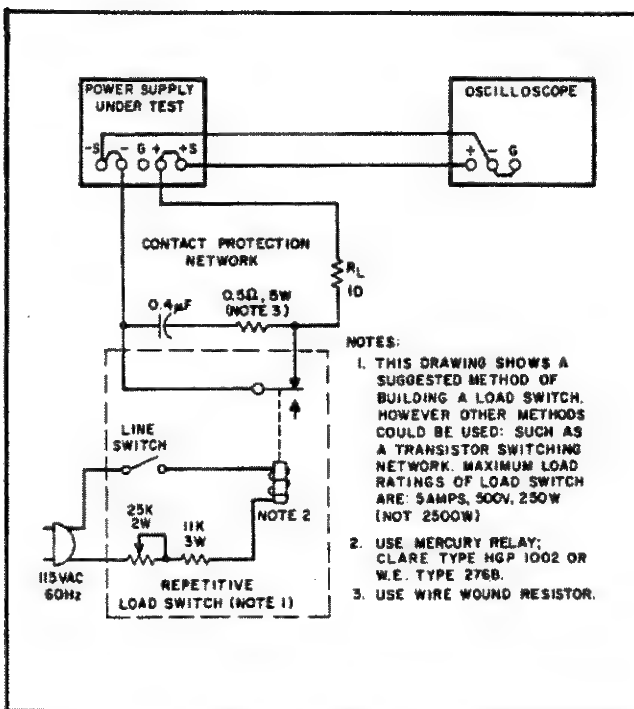

Figure 5-4. Transient Recovery Time Test Setup
5-31 A mercury-wetted relay, as connected in the load switching circuit of Figure 5-4 should be used for loading and unloading the supply. When this load switch is connected to a 60Hz ac input, the mercury-wetted relay will open and close 60 times per second. Adjustment of the 25K control permits adjustment of the duty cycle of the load current switching and reduction in jitter of the oscilloscope display.
- Connect test setup shown in Figure 5-4. Set MODE switch to POWER SUPPLY and RANGE switch to X4.